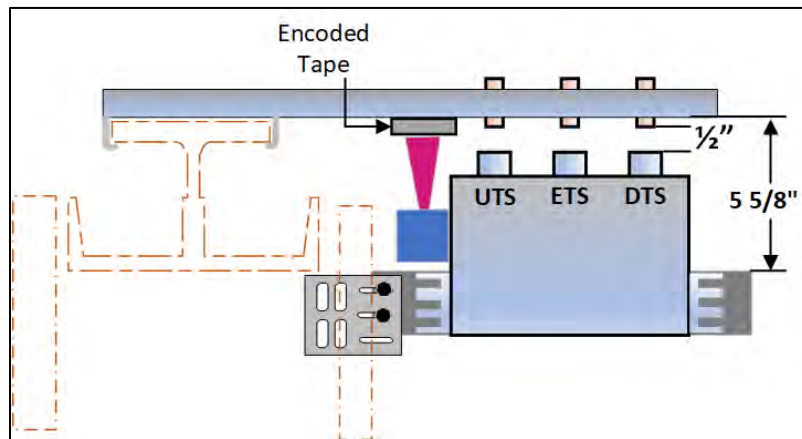

Figure 2-11: APS Selector Box and Mounting
- The edge of the bracket closest to the tape should be approximately 5 5/8 inches from the back of the rail. See Figures 2-11 and 2-12.
- Mount a J-hook bracket with a **GREEN** actuating magnet for the UTS magnetic limit switch at the proper distance from the top terminal landing. See Table 2-1 for the proper distance. See Figures 2-11 and 2-14 for the proper position on the J-hook bracket.
- The actuating magnets should be positioned in the proper lane and adjusted so that the end of the magnet is 1/2 inch from the face of the magnetic switch as the magnetic switch passes the actuating magnet. See Figure 2-11.